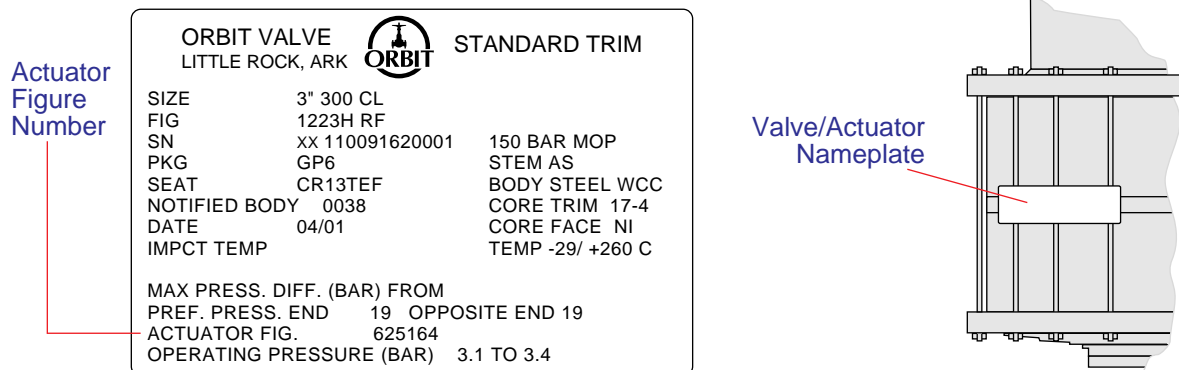

FIGURE 8
- Read all nameplates, warning tags, and any instruction tags before pressurizing the actuator. See Figure 8 for valve/actuator nameplate location.
5. Be sure that a sufficient volume of gas (air), at a suitable pressure, is available to operate the actuator. Adjust the operating pressure to the actuator to the specified pressure on the valve/actuator nameplate (see Figure 8). Adjust the closing time of the valve/actuator so that it is not faster than the recommended time given in the chart below. (Note: Faster times may cause damage to the valve and actuator.)
① Use pressure stamped on valve / actuator nameplate, if different from listed pressure. See Figure 8 for location of nameplate.
② Approximate gas volume required to open valve (spring-to-close) at 70°F (21.1°C) and maximum operating pressure.
③ Recommended closing time may be slower but should not be faster. Speed can be adjusted by using a flow control in the exhaust port of the actuator control valve.
6. Check the oil level in the gas-over-oil tank as described in the “MAINTENANCE” section of this manual (page 92). If the actuator has been repaired or stored for more than three (3) months, lubricate as described in the “MAINTENANCE” section of this manual (page 91).